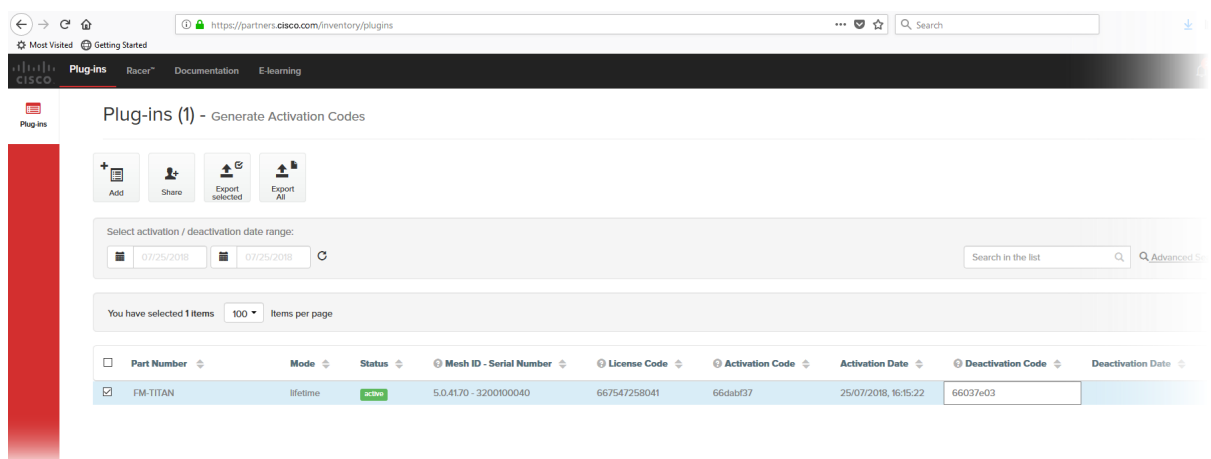

Figure 60. Partner Portal Plug-ins page (deactivation code entry)
8. Enter the Deactivation code for the plug-in in the Deactivation Code field (Figure 60 (page 109)).